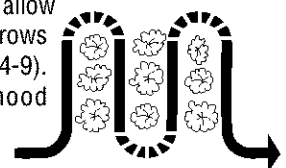

Figure 4-9
- When cultivating (breaking up surface soil around plants to destroy weeds, see Figure 4-9), adjust the tines to dig only 1" to 2" deep. Using shallow tilling depths helps prevent injury to plants whose roots often grow close to the surface. If needed, lift up on the handlebars slightly to prevent the tines from digging too deeply. (Cultivating on a regular basis eliminates weeds, and loosens and aerates the soil for better moisture absorption and faster plant growth.)
With planning, you can allow enough room between rows to cultivate (see Figure 4-9). Leave room for the hood width, plus enough extra room for future plant growth.